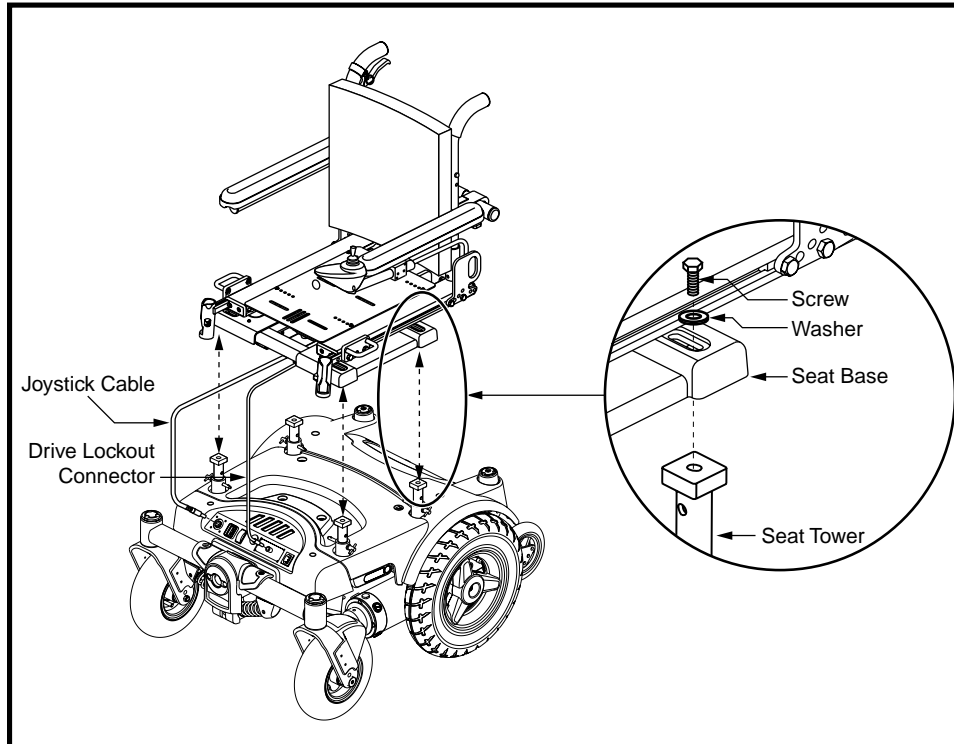

Figure 2. Synergy Manual Tilt Removal/Installation
2. Disconnect the controller cable from the power base. See figure 2.
3. Disconnect the drive lockout connector from the electronics tray. See figure 2.
4. Remove the screw and washer from each of the four seat towers. See figure 2.
2. Lower the seat so that the seat base rests on the four seat towers. See figure 2.
3. Install the screws and washers to lock the seat onto the seat towers. See figure 2.
4. Connect the drive lockout cable to the power base. See figure 2.
5. Connect the controller cable to the power base. See figure 2.